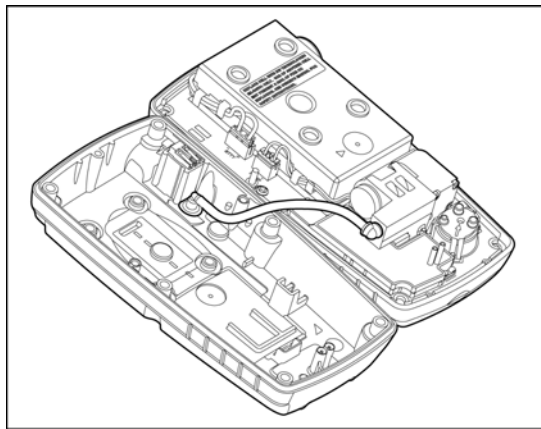

Figure 10. Front and Rear Shells Side by Side
4. Because the pump hose is connected to the rear shell and front shell pump, carefully remove the rear shell by lifting upward and tilting to the left. The front and rear shells are laying flat side by side (Figure 10).